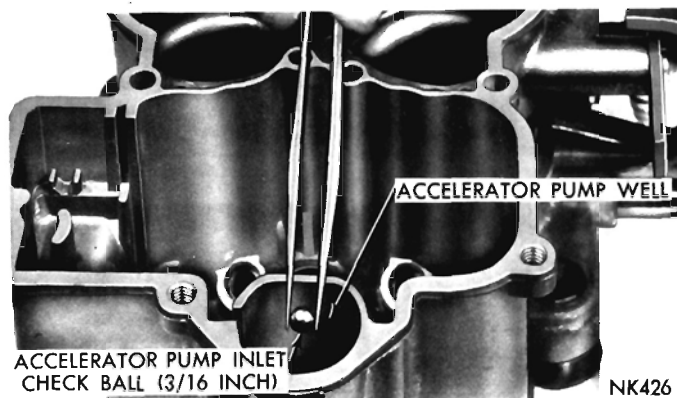

Fig. 12—Installing Accelerator Pump Inlet Check Ball
(4) Install the accelerator pump inlet check ball ($\frac{3}{16}$ inch) in the pump well, as shown in (Fig. 12).